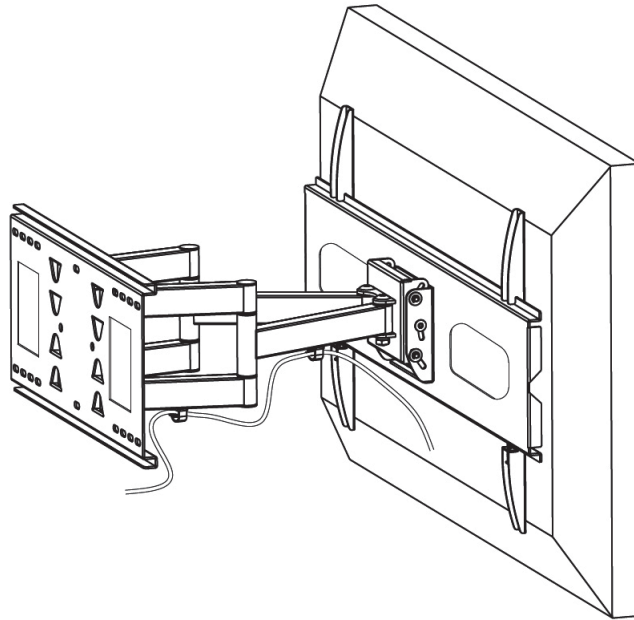

Figure 8
1. Secure the cables from your TV / Monitor through the cable management loops. See Figure 8.